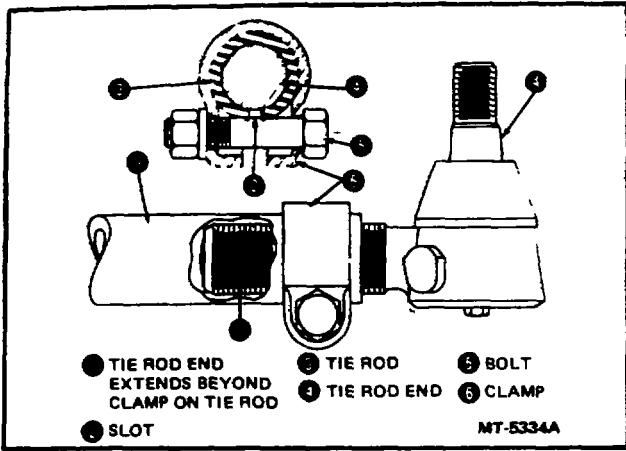

Fig. 23. Typical Tie Rod End
**CAUTION - WHEN TIE ROD, DRAG UNK OR POWER STEERING LINKAGE ENDS ARE REPLACED, THEY MUST BE THREADED INTO THE TIE ROD SUFFICIENTLY SO THAT WHEN THE CLAMP IS APPLIED, THE CLAMPING ACTION WILL BE DIRECTLY OVER THE THREADS ON THE BALL JOINT END. BE SURE THAT THE END IS FAR ENOUGH (PAST THE CLAMP) TO PROVIDE ADEQUATE CLAMPING AND THE BOLT IN THE CLAMP IS INSTALLED NEXT (OVER) THE SLOT IN THE TIE ROD. FIGURE 23 ILLUSTRATES A TYPICAL TIE ROD DESIGN FOR THESE AXLES.**
Most installations have vertical socket type drag links which are similar in construction to the tie rod shown in Figure 23